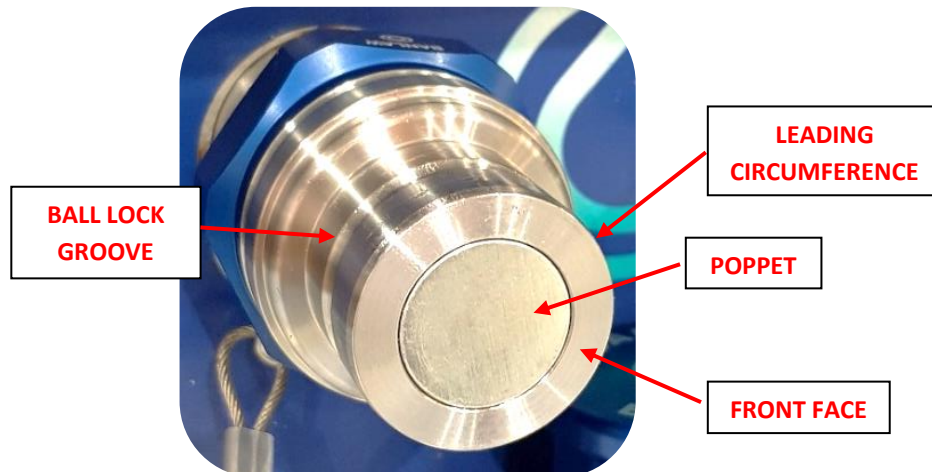
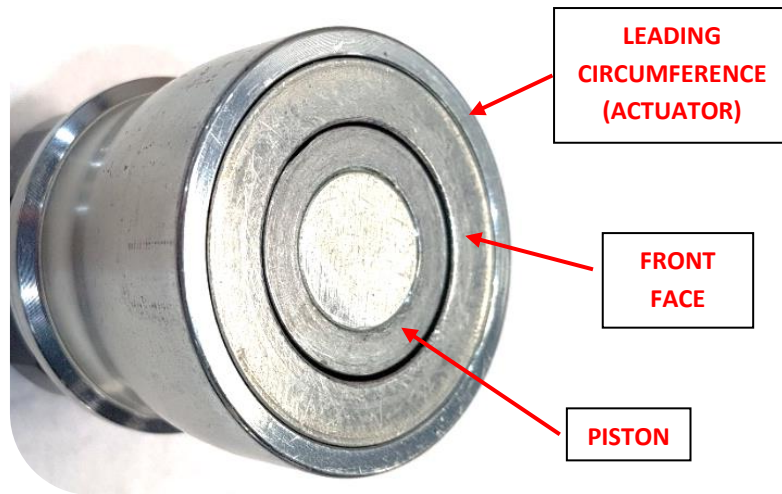

Figure 10 - Critical Areas of Damage on BPL Receivers
Figure 11 - Critical Areas of Damage on BPL Nozzles
- **Closely** inspect the front area of the BPL **Receiver** (Figure 10) and **Nozzle** (Figure 11) for excessive wear or damage;
- **Closely** inspect the front area of the BPL **Nozzle** (refer Figure 11), for signs of damage or excessive wear & tear. Excessive wear or damage may cause problems connecting and disconnecting the couplers but will also introduce the risk of unintentional coupler disconnection – i.e. BPL Nozzle “fly off” – during pressurised liquid transfer. Promptly replace any faulty BPL couplers prior to their next required use or place the coupler(s) “Out of Service” until replacement.